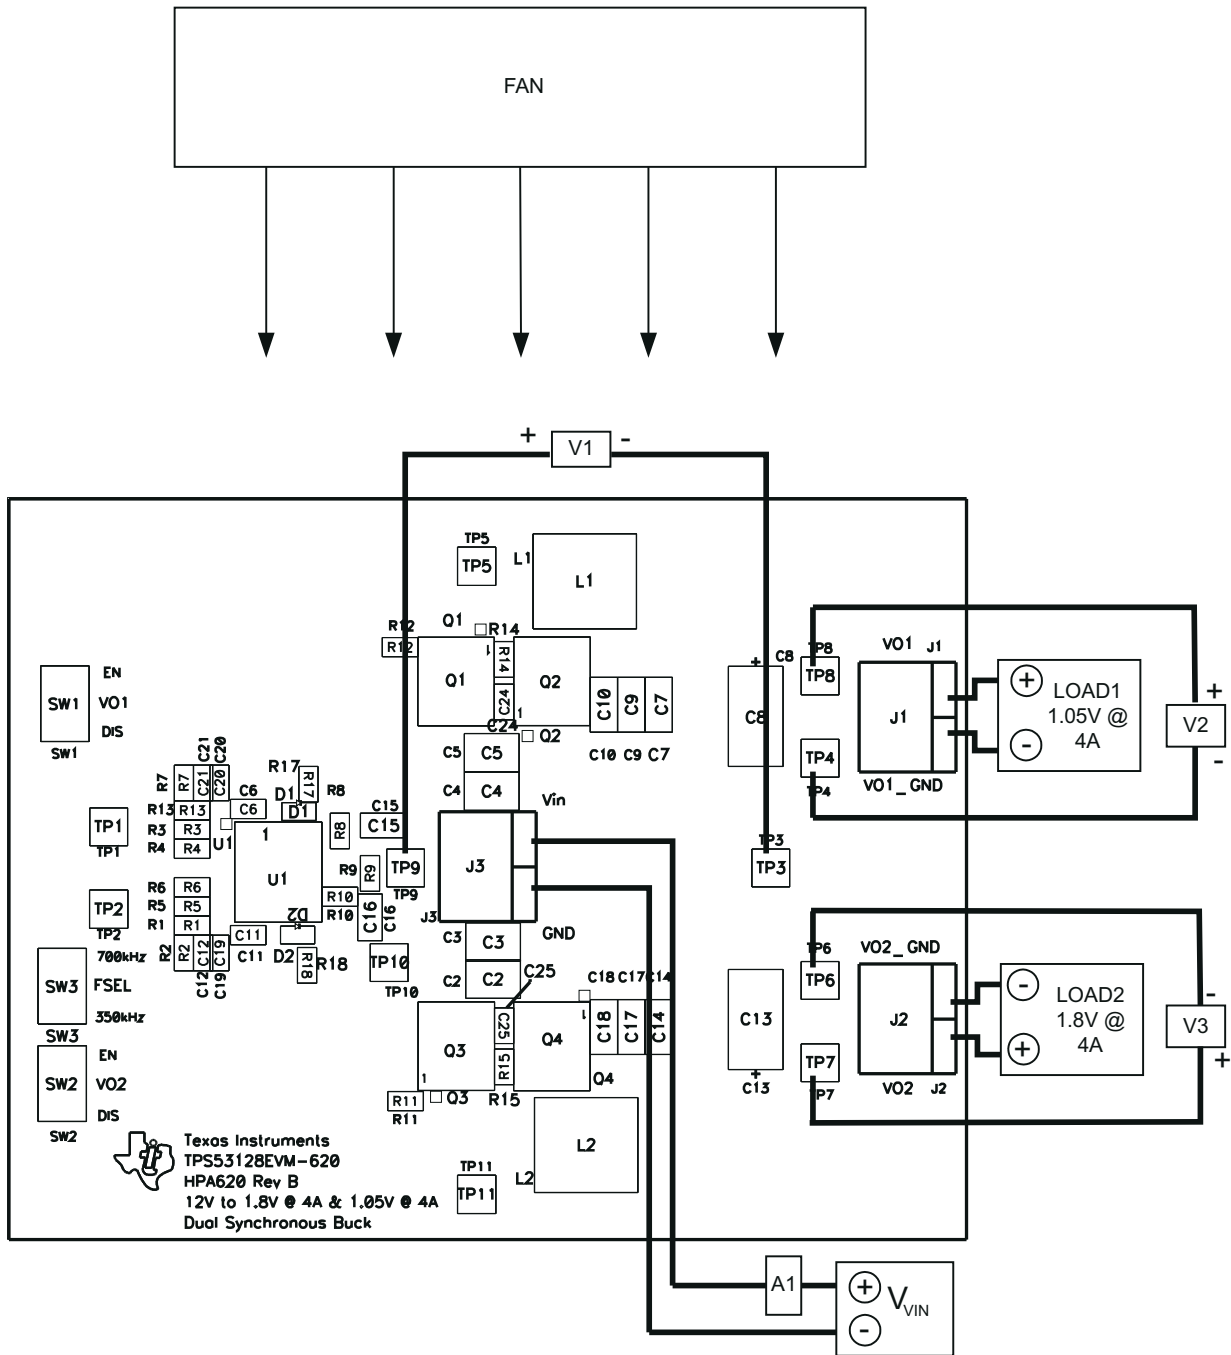

Figure 5-1. TPS53128EVM-620 Recommended Test Setup
Figure 5-1 shows the recommended test setup to evaluate the TPS53128EVM-620. Working at an ESD workstation, make sure that any wrist straps, bootstraps, or mats are connected referencing the user to earth ground before power is applied to the EVM. Electrostatic smock and safety glasses also are recommended.
4. Place a fan as shown in Figure 5-1 and turn it on, making sure air is flowing across the EVM.